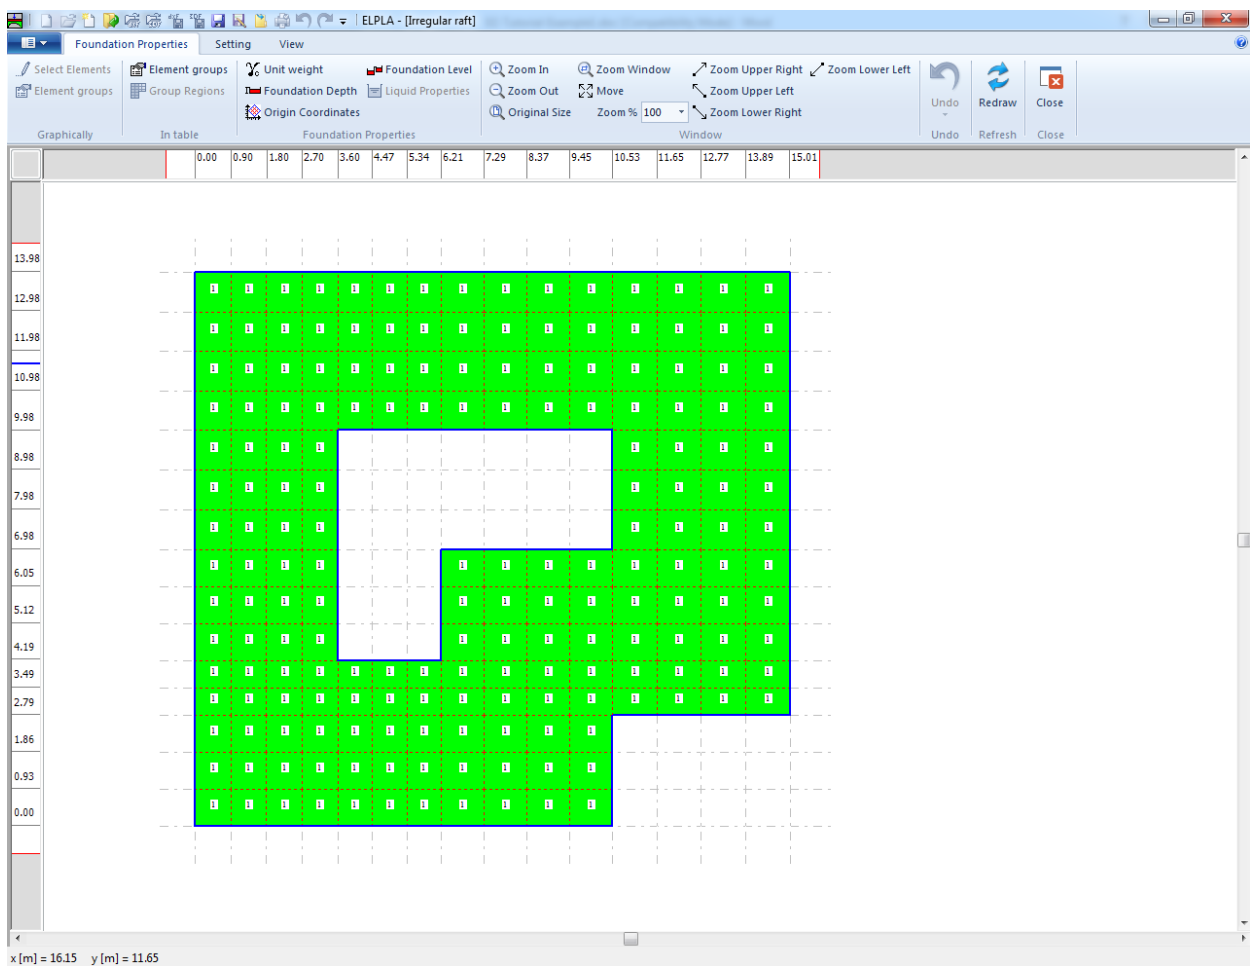
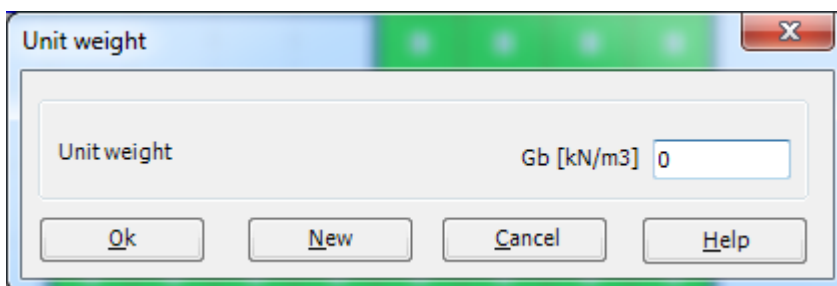
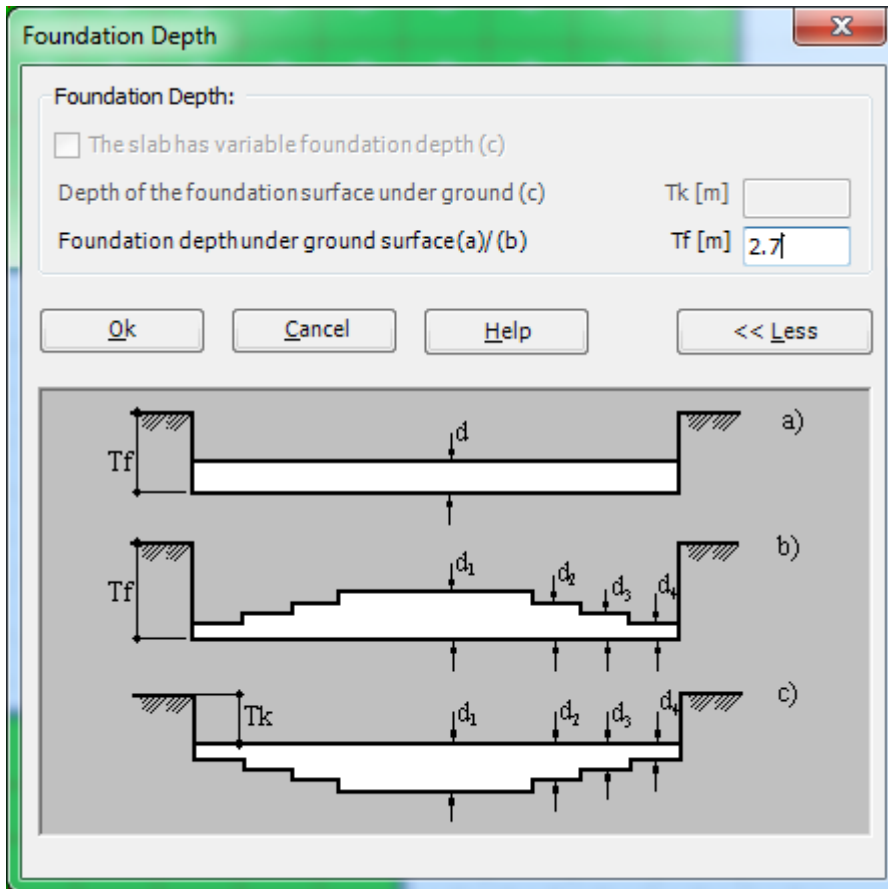

Figure 1.22 "Foundation Properties" Window
Figure 1.24 "Unit weight of the foundation" dialog box
Figure 1.25 "Foundation Depth" dialog box
To define the foundation properties, choose "Foundation Properties" command from "Data" Tab. The following Window in Figure 1.22 appears with default foundation properties. The data of foundation properties for the current example, which are required to be defined, are raft material, raft thickness and foundation depth. Any other data corresponding to foundation properties in the program menus are not required in this example. Therefore, the user can take these data from the default foundation properties.
To enter the unit weight of the raft, choose "Unit Weight" command from "Foundation properties" menu in the window of Figure 1.22. The following dialog box in Figure 1.24 with a default unit weight of 25 [kN/m³] appears. To neglect the self-weight of the raft in the analysis, type 0 in the "Unit Weight" edit box. Click "OK" button.
To enter the foundation depth under the ground surface, choose "Foundation Depth" command from "Foundation properties" menu in the window of Figure 1.22. The following dialog box in Figure 1.25 appears to define the foundation depth under the ground surface. Type 2.7 in the "Foundation depth under the ground surface" edit box. Then click "OK" button.
- Choose "Save" command from "File" menu in Figure 1.22 to save the foundation properties
- Choose "Close" command from "File" menu in Figure 1.22 to close the "Foundation properties" Window and return to ELPLA main window.